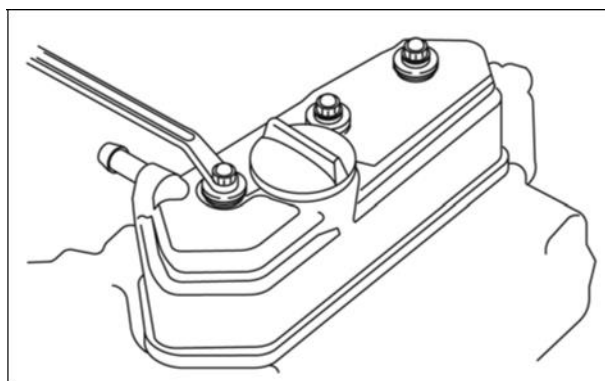

Figure 5
7. Remove the valve cover (Figure 5).